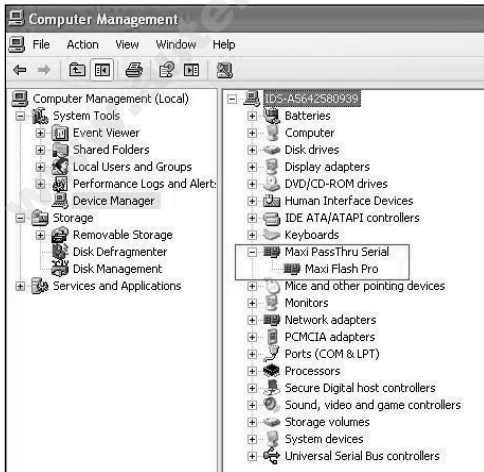

Figure 3.1
- 8) When the MaxiFlash Pro device driver is successfully installed, you should be able to see the “Maxi Flash Pro” entry in the Device Manager under “Maxi Pass Thru Serial”. (Figure 3.1)